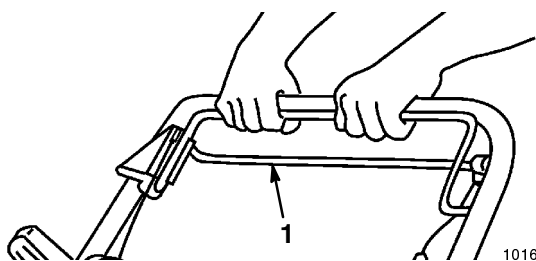

Figure 14
2. To disengage self-propel drive, release self-propelled bail (Fig. 14).